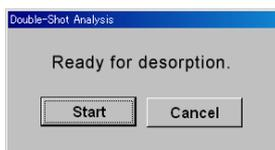

Fig. 4.10 Dialog box showing the start of the desorption program in Double-Shot Analysis
- (1) Check the Furnace and Interface checkboxes (B) to turn on heaters.
- (2) Fill in parameters for thermal desorption in E through I. If a single step thermal desorption is to be done, enter “0” in the second row in the “Rate” column.
- (3) If pyrolysis is to be done following the thermal desorption, check the checkbox in D, and enter parameters for thermal desorption in J through K.
- (4) If auto sampling is to be done using the Selective Sampler, and/or if auto cryo-trapping is to be done using the MicroJet Cryo-Trap, check the checkbox for each step desired in L.
- (5) Place a sample in a sample cup and attach it to the Pyrolyzer. *When using a Double-Shot sampler the dead space is purged by loosening the air purge nut on the sampler as shown on page 1-5. Tighten it after two minutes. During this period, the GC may generate warning sounds if the carrier gas is controlled by EPC, but if it is within 5 min, the GC will NOT power down.*
- (6) Click "START" button.
- (7) When the GC, pyrolyzer furnace, interface, Selective Sampler, and MicroJet Cryo-Trap are all READY, the dialog box shown in Fig. 4.10 will be displayed.